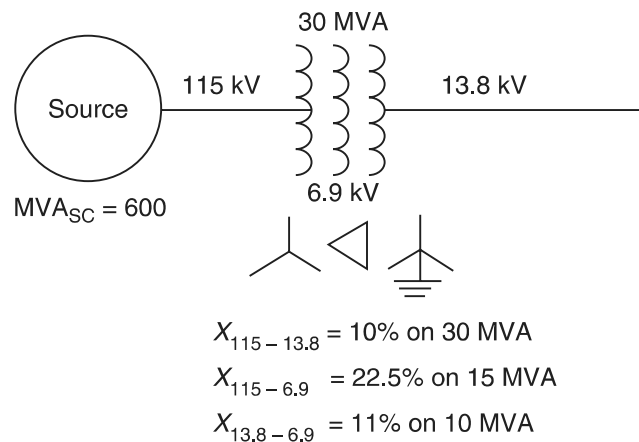

FIGURE P4.2
- 4.2** For the system shown in Figure P4.2